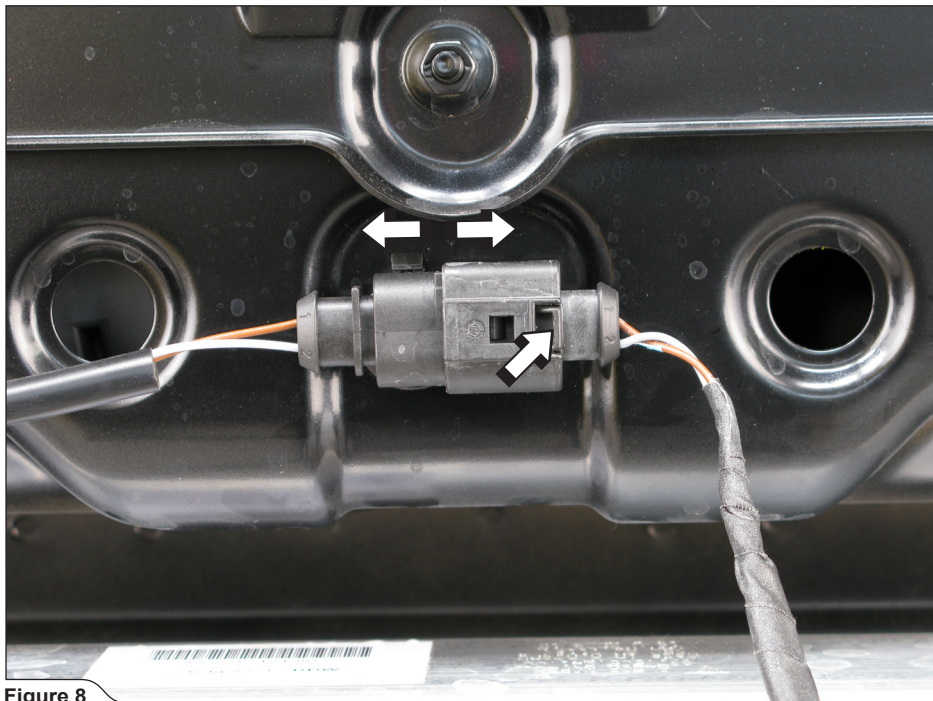

Figure 8
5. For **Slip-On Race, Evolution Race and Upgrade Kit1/2**: disconnect the number plate's light and park sensor's connector and remove the rear bumper (**Figure 8**).